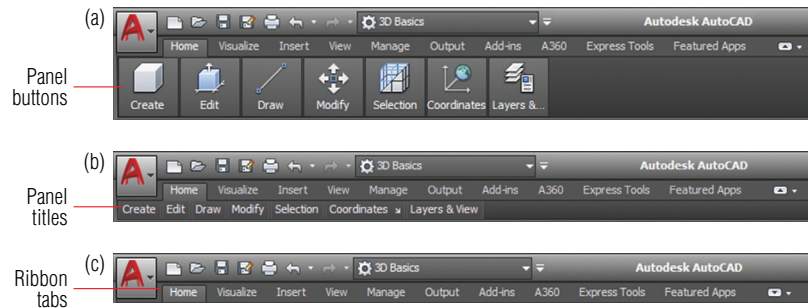

FIGURE 1.11 Ribbon modes
2. Click the Minimize Ribbon button and observe that the full ribbon changes to display tabs and panel buttons (see Figure 1.11). Hover the cursor over the panel buttons. The buttons expand to reveal all the tools shown on the full ribbon.